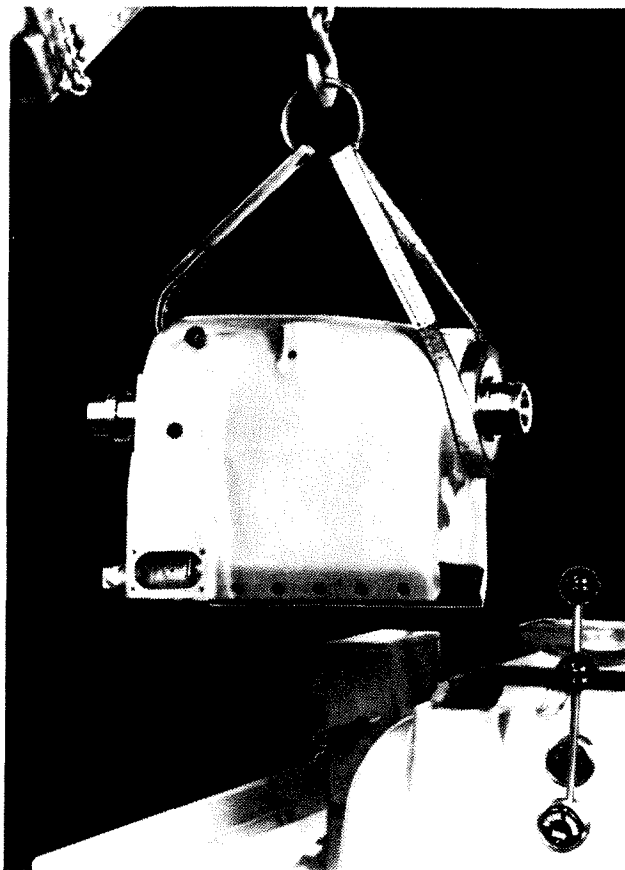

Figure 4.14 - Headstock Removal
Position the sling around the front outside cap of the headstock, as shown in Figure 4.14 . DO NOT position the sling around the machine spindle; damage to the spindle bearings may result.
33. Using a hoist and sling, as shown in Figure 4.14, slide the headstock OFF and UP.
1. Using a hoist and sling, as shown in Figure 4.14, slide the headstock onto the bed plate.